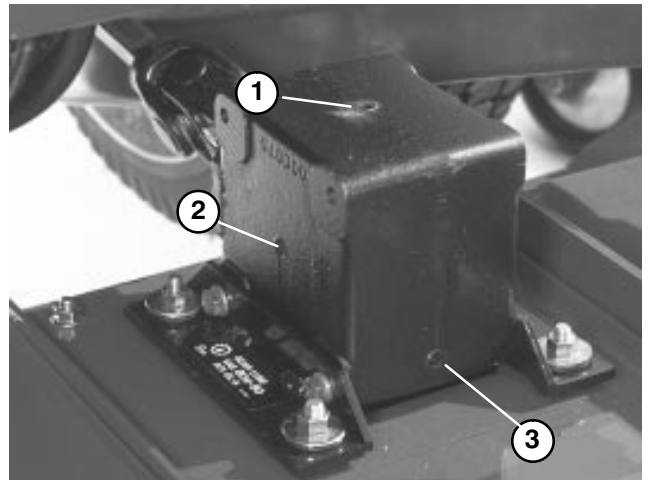

Figure 22
2. Position machine and cutting unit on a level surface and lower cutting unit. Remove check plug from side of gear box (Fig. 22) and make sure lubricant is up to bottom of hole. If level of lubricant is low, remove fill plug on top of gear case and add SAE 80–90 wt. gear lube until level is up to bottom of hole in side.